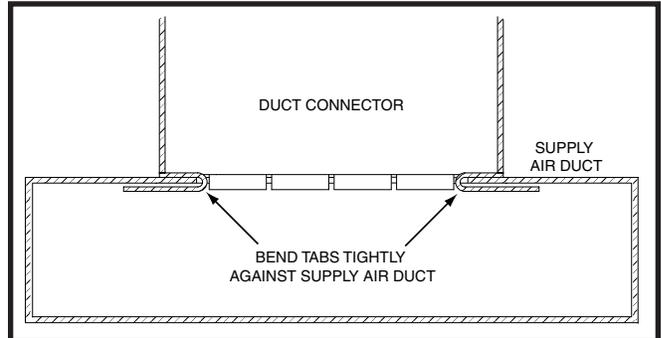

Figure 11. Duct Connector Tabs
8. Bend both tabs up 90° on the mounting plate. See Figure 11 \(page 8\).